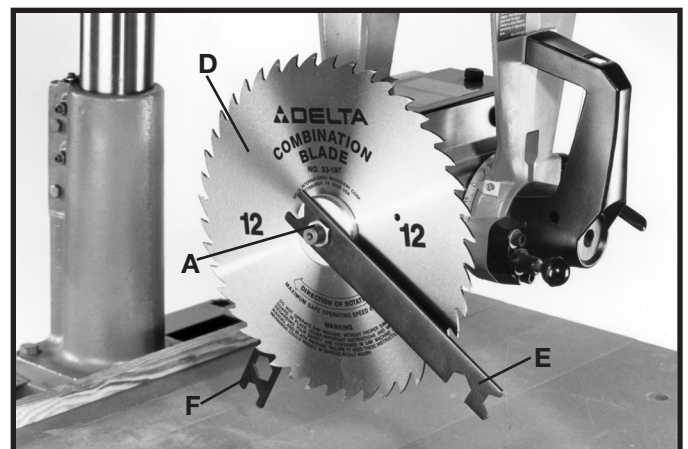

Fig. 30
3. Assemble the saw blade (D) Fig. 30, between the two blade flanges making sure the teeth of the saw blade are pointing down at the front.
4. Assemble arbor nut (A) Fig. 30 to shaft and tighten with wrench (E) Fig. 30, while keeping arbor shaft from turning with other wrench (F).